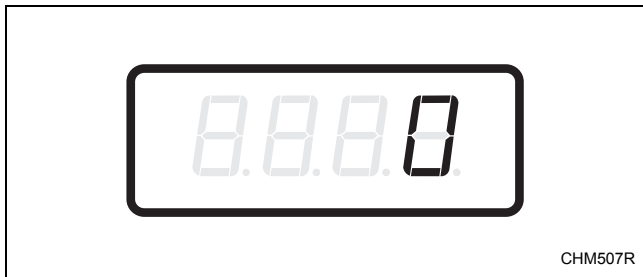

Figure 22
2. When “SA14” appears in the display, press the START (enter) keypad. There are five digits in the Special Vend A Vend Price #4. The fifth digit will appear in the display and will flash one second on and one second off. Refer to *Figure 22*.